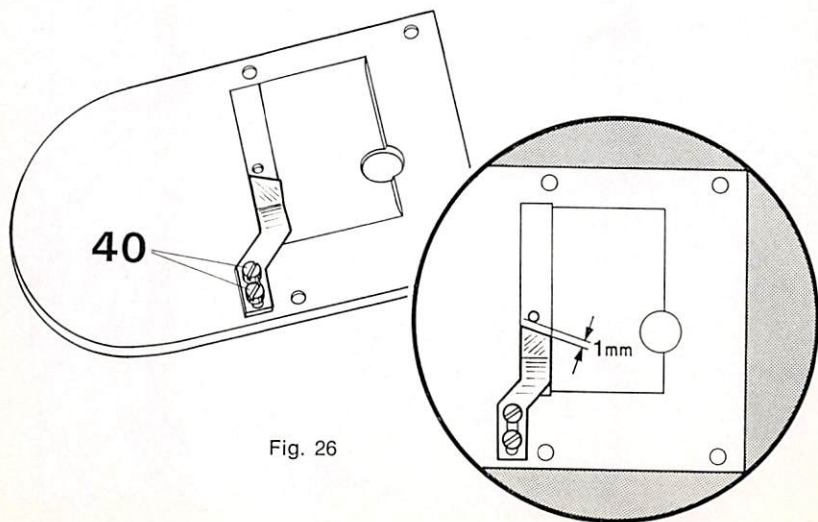

Fig. 26
**26. Adjusting the stationary knife (Fig. 26)**
- 26.2. Set the knife so that there is a clearance of 1 mm (0.04") between the edge of the needle hole and the cutting edge of the knife (see encircled view of Fig. 26).